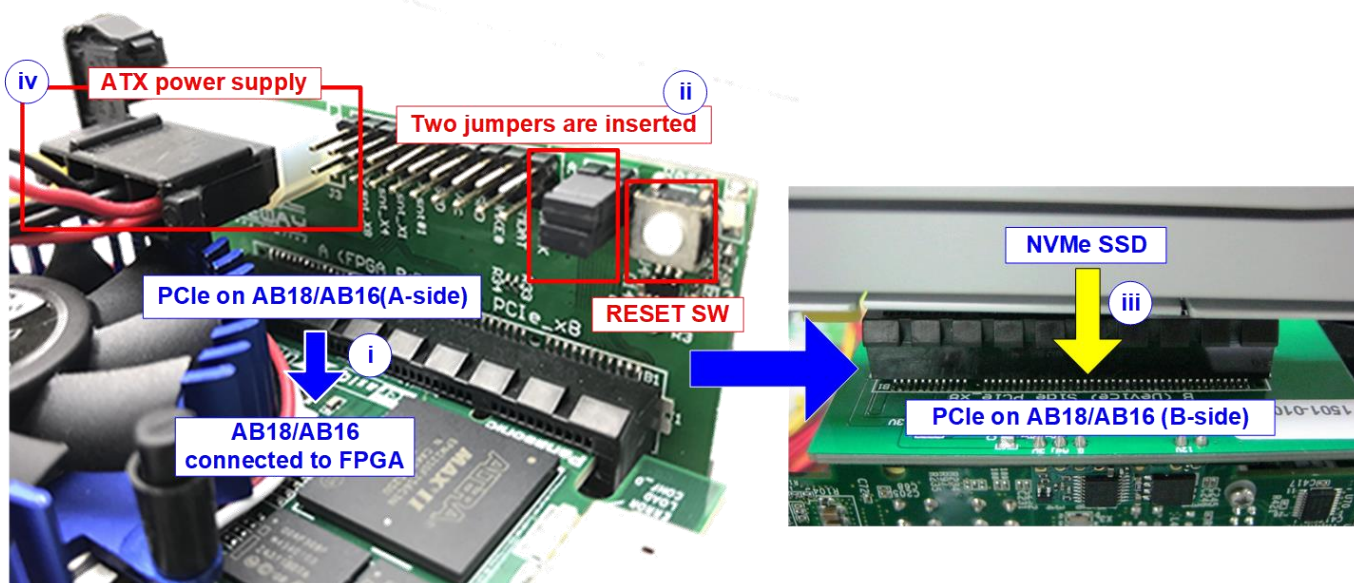

Figure 2-2 Connect PCIe connector between AB18/AB16 and FPGA board
- iv. Connect ATX power supply to AB18/AB16 board as shown in Figure 2-2.